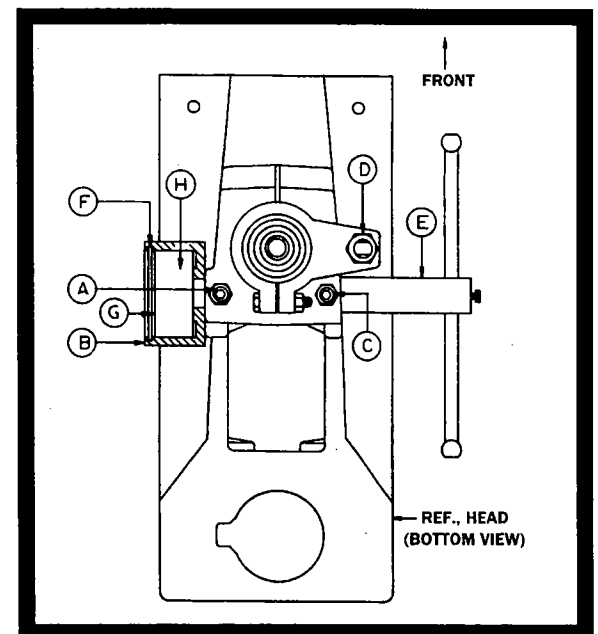
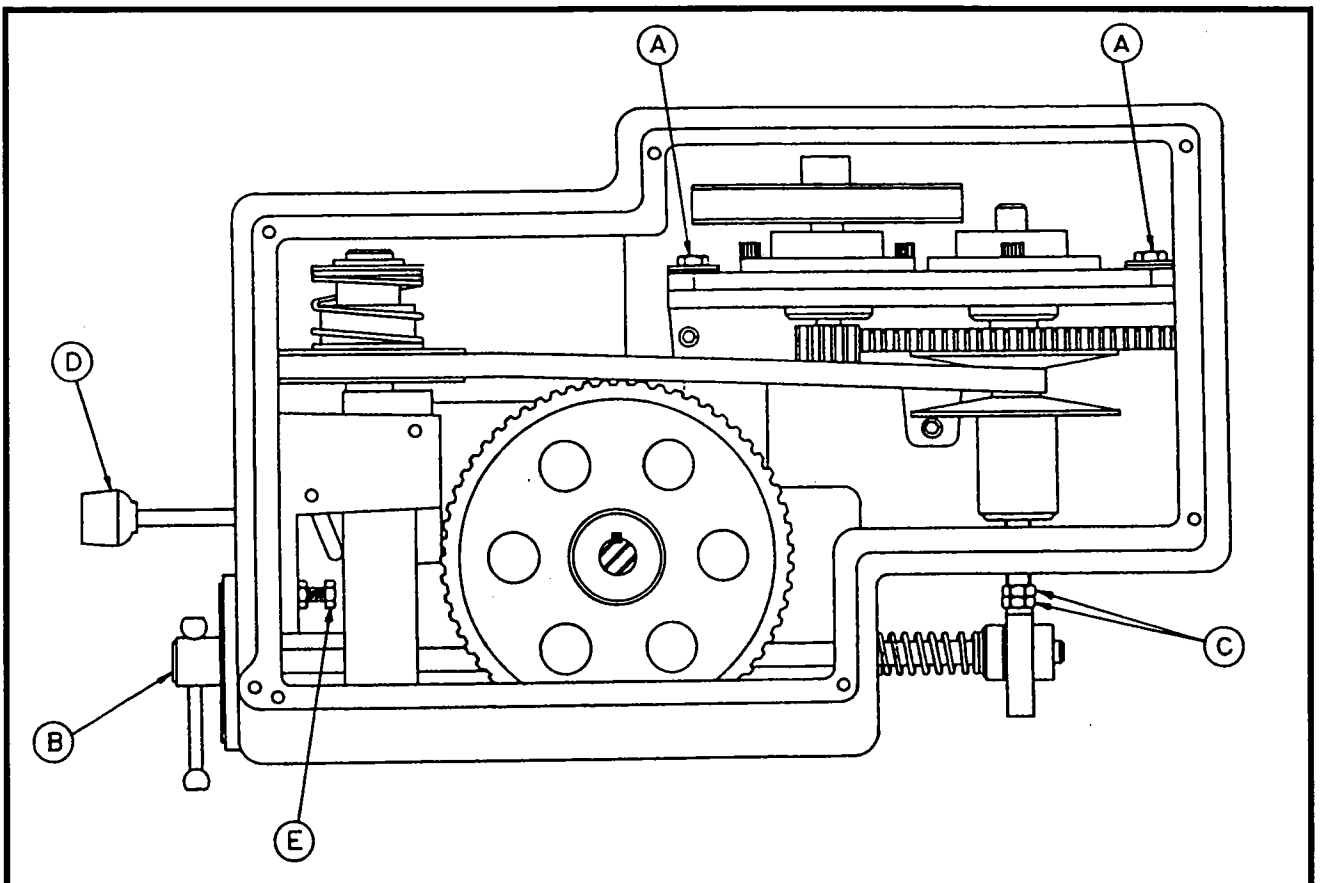

FIGURE 5
FIGURE 7
Spring tension for return of spindle, after hole drilling, has been pre-set at the factory. No further adjustment should be attempted unless absolutely necessary. Adjustment will probably be required if a multiple spindle drilling or tapping head is used. If adjustment is necessary, loosen lock screw (A) (Fig. 5) while holding quill spring housing (B). **DO NOT** allow the housing to turn in your hand or spring will unwind. Turn entire housing assembly clockwise the number of turns necessary to cause the quill to return to its up position. (NOTE: The flat of the spring housing pilot is lined up with the spring loading hole on the body of the spring housing.) Reset lock screw (A), and make sure point of screw mates to flat on the housing journal.
1. Hold quill return spring housing (B) in left hand (see Fig. 5) and loosen lock screw (A). Let spring unwind slowly, by allowing cam to turn in hand.
1. Loosen setscrew in collar (A). To reach this screw, insert a 5/32" Allen wrench through hole in top of quill.
2. With a hard rubber mallet or block of wood, tap spline end of spindle. The spindle, with bearing (C), will come out of the quill.
3. Use an arbor press to remove bearing (C).
5. When replacing collar (A), remove all end play from spindle.
7. Remove lock ring (F) and cover plate (G) (Fig. 5) from spring housing and make certain tongue on return spring is properly inserted in slotted end of pinion shaft. Replace cover and adjust spring tension as instructed under heading "QUILL RETURN SPRING ADJUSTMENT."
1. Hold the quill return spring housing (B) (Fig. 5) in the left hand and loosen lock screw (A). Let spring slowly unwind by allowing the housing to rotate in the hand.
2. Clamp the quill with the quill binder so that it will not fall out of the head. Unlock and remove setscrew (A) and remove the standard pinion. Install the power feed pinion and its locking sleeve. Install the setscrew in the outside tapped hole and lock the sleeve in position.
4. Mount the power feed housing and worm gear on the drill press, piloting the casting on the feed pinion locking sleeve. Adjust the casting to be parallel with the head cast with the setscrews mounted on the head casting ears, and lock in place. Install the sheet metal bracket to the motor base adjusting stud and lock it down against the feed box castings with the screw provided. (Figures 7 & 8).
6. Install the belt from the head to the power feed unit and adjust the sheave bracket mounting screws (A) to properly tension the belt.